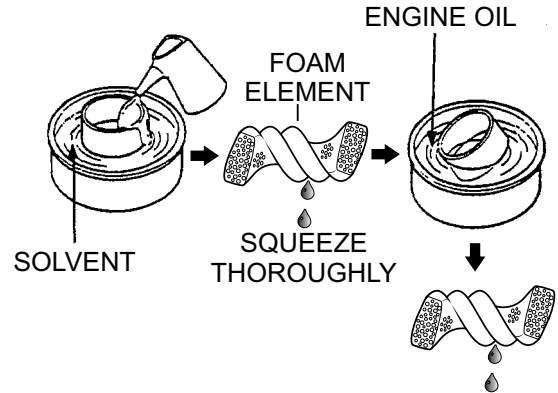

Figure 34. Cleaning Foam Element
3. Clean foam element in warm, soapy water or nonflammable solvent (Figure 34). Rinse and dry thoroughly.